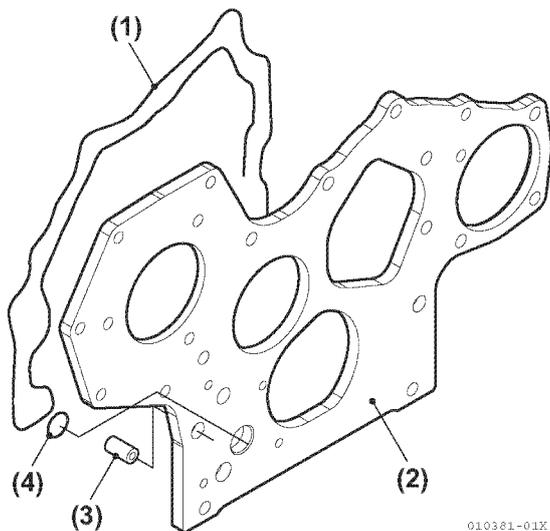

**Figure 5-50**
- 44. Remove the pistons and connecting rods (Figure 5-50).